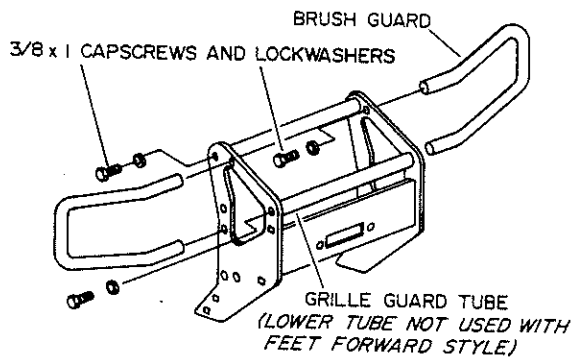
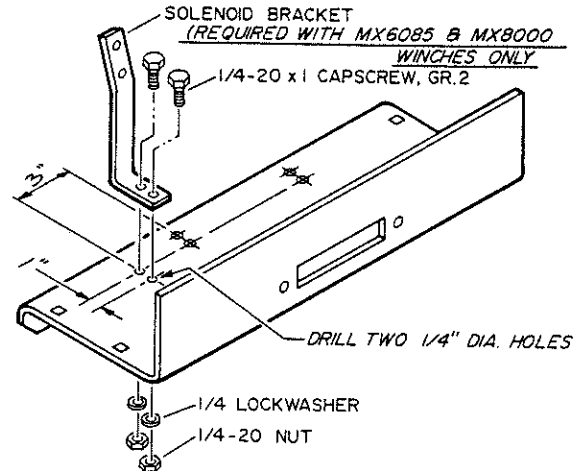

FIGURE 7
FIGURE 8
5. This step applies only when mounting the MX6085 or MX8000 winch. Drill two 1/4" diameter holes in the winch mounting plate as indicated in **Figure 8**. This is not necessary for the other winches because their solenoid boxes mount directly on the winch.
7. Install the brush guards and the upper grille guard tube as shown in **Figure 7**. Install solenoid bracket if needed, as shown in **Figure 8**.
11. On "feet down" style, install lower grill guard tube as shown in **Figure 7** and install the black hole plugs in the unused square holes in side members.